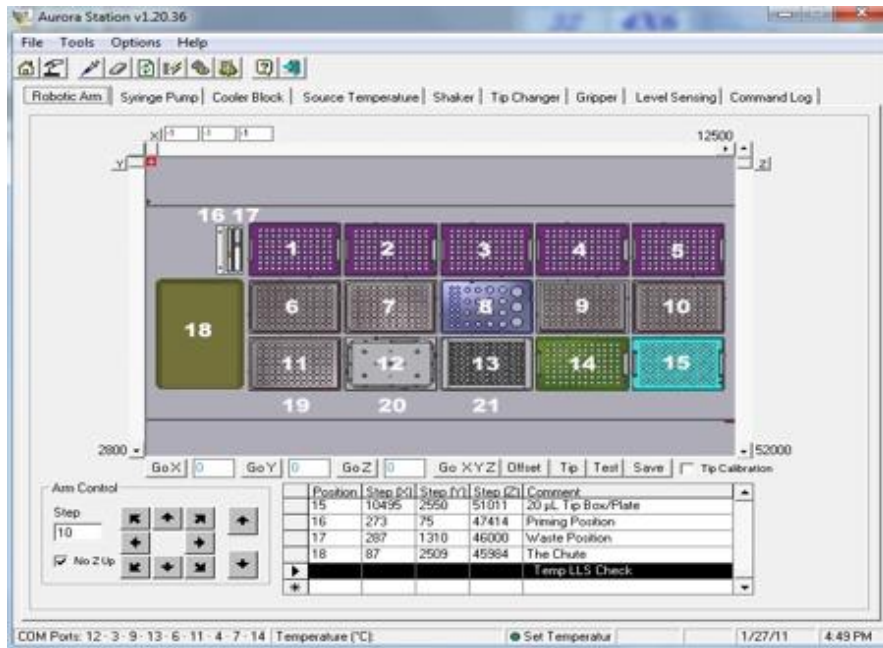

Figure 9-84 New Row Entry for Coordinates Table
1. Open Aurora Station and select a new blank or empty row for use in the coordinates table. Under the position field, type in a position number and a comment (this can be any number or name that don't coincide with the default teach positions). Leave all other fields empty and highlight the new row (*Figure 9-84 New Row Entry for Coordinates Table*)